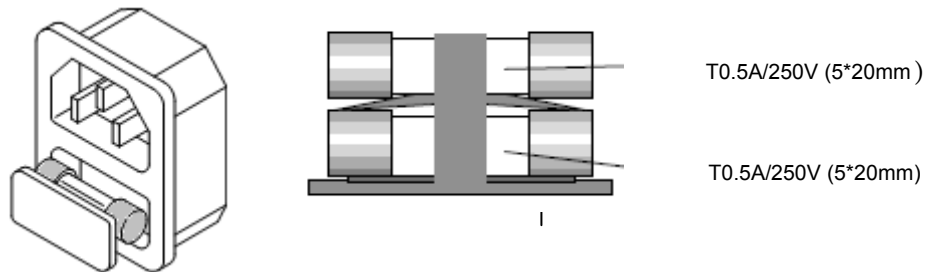

Fig 2-2 FUSE RECEPTACLE
- 2.3.2 The AC line fuse is located below the AC line socket (see Fig 2-2). Use A small screwdriver to remove the fuse holder. Replace the failed fuse With the appropriate type and rating according to your mains voltage. (See Table 1-1)